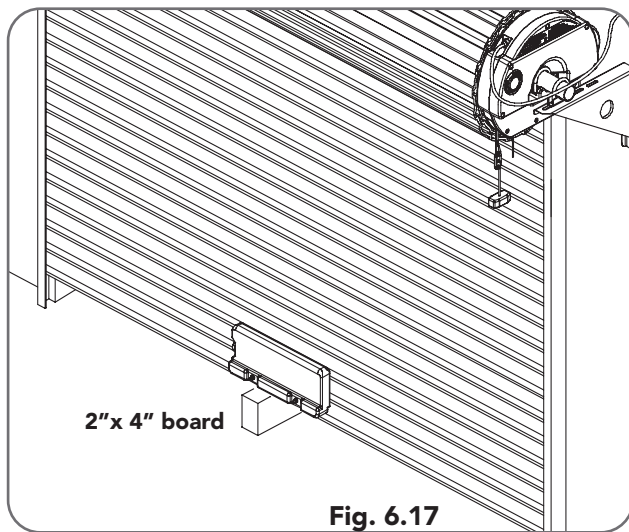

Fig. 6.17
- Place an object approximately 1-1/2"(38mm) high (or a 2"x 4" board laid flat) on the floor under center of sheet door opening (Fig.6.17)